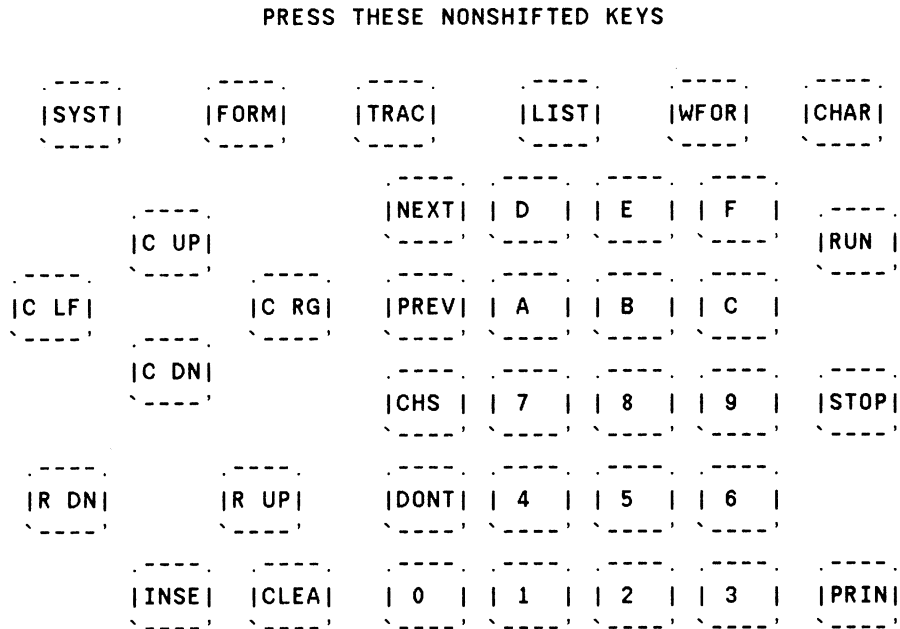

Figure 4-1. Keyboard Test Pattern
- c. Press the < KEYBRD > softkey. The 1630A/D display should display the keyboard pattern shown in figure 4-1.